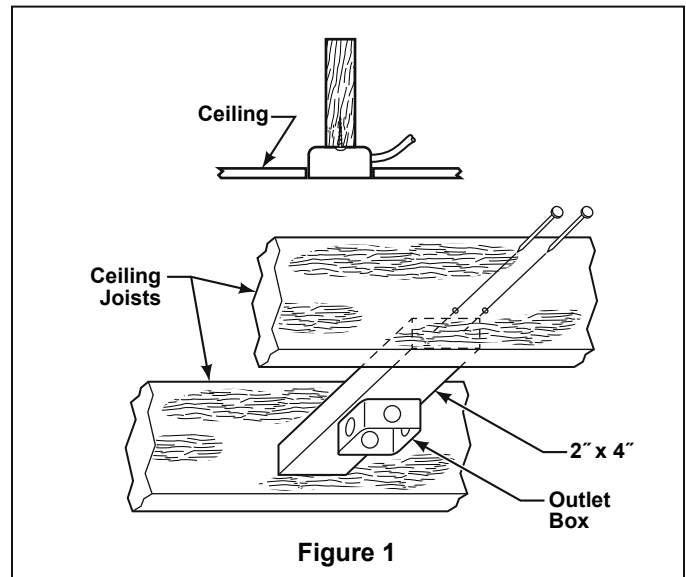

Figure 1
NOTE: If you are uncertain of part description, refer to exploded view illustration. (Figure 1, page 13)
Your new ceiling fan will require a grounded electrical supply line of 120 volts AC, 60 Hz, 15 amp circuit. The outlet box must be securely anchored and capable of withstanding a load of at least 50 lbs. **Figure 1** depicts different structural configurations that may be used for mounting the outlet box.
2. Remove the Hanger Ball by loosening the setscrew in the Hanger Ball until the ball falls freely down the Downrod. (Figure 1) Remove the Pin from the Downrod, then remove the Hanger Ball. Retain the Pin and Hanger Ball for reinstallation in Step 6.
The fan must be hung with at least 7' of clearance from floor to blades (Figure 1)